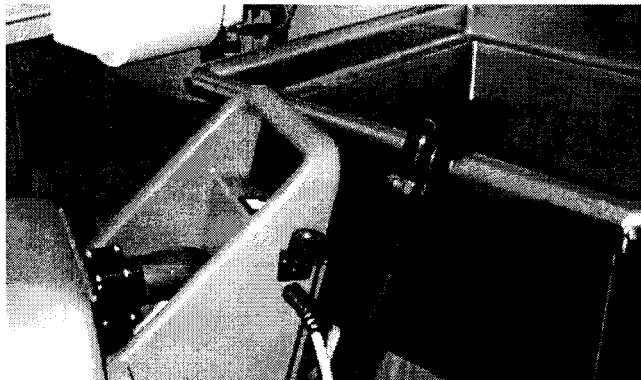

FIG. 4.
3. Hang drain hose elbow over edge of drain sink. Figure 4.